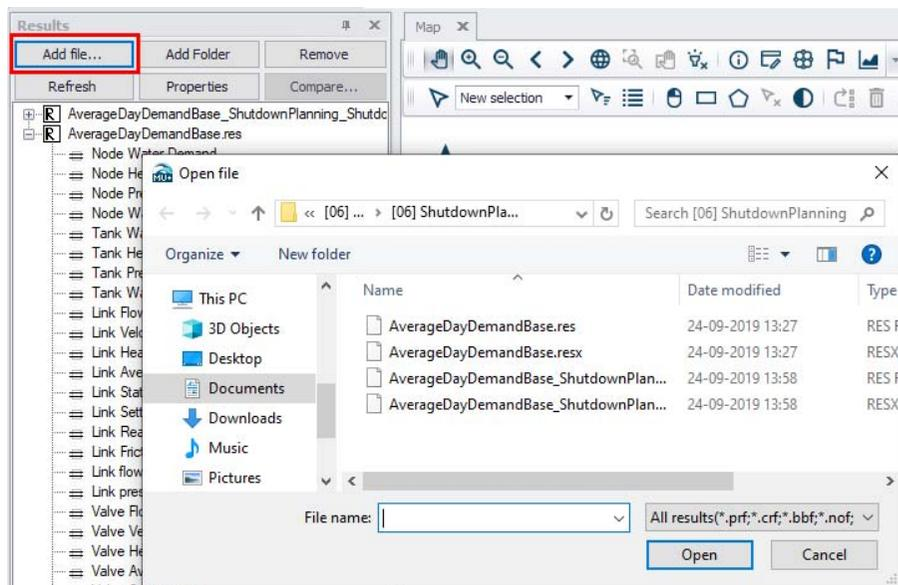

Figure 19.3 Load model results using the 'Add file...' button on the Results panel
- Click on the 'Add file...' button and navigate to the result file you wish to load (Figure 19.3).